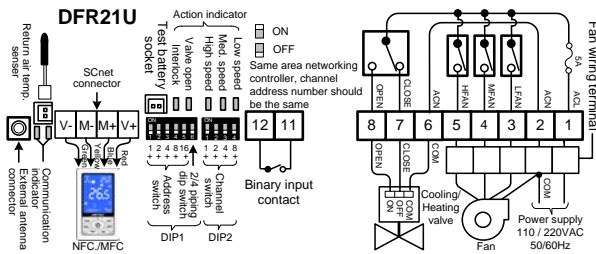

Figure 1. DFR21U applied to 2-piping wiring diagram
- DFR can be applied to two or four pipe system on chiller water, DX air condition systems (see the figure 1~3), dip switch selectable parameters; refer to the related technical manual.